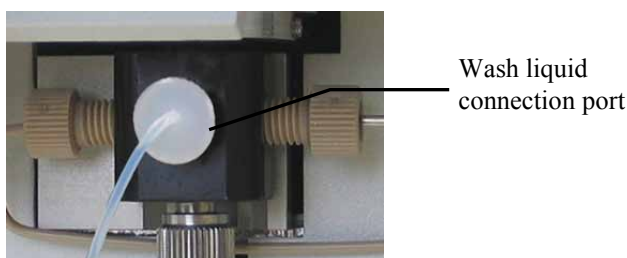

Fig. 18: Wash liquid line connected to the syringe valve
3. Connect the free end of the line to the syringe valve (→ Fig. 18).